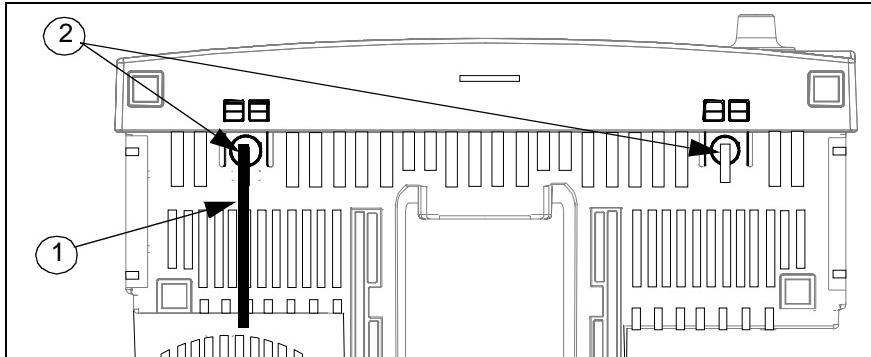
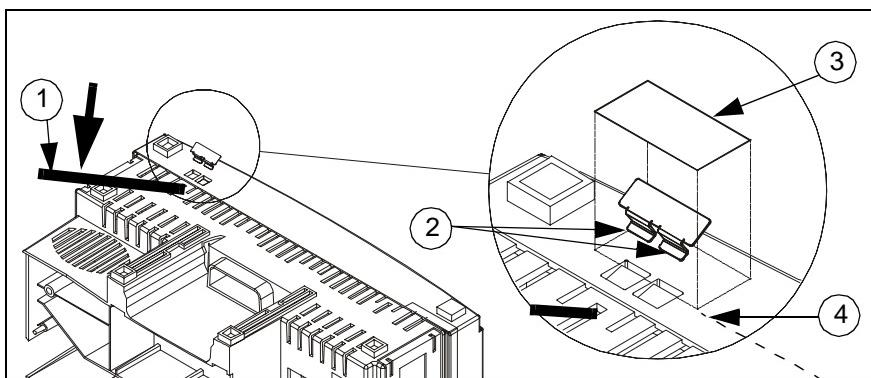

Figure 3-14 SC 7000 / SC 9000XL Patient Monitor Bottom View
Figure 3-15 Installing Security Clip and Tape
- 4) Turn monitor bottomside up. See Figure 3-14.
- 5) Insert small screwdriver or similar tool (① in Figure 3-14 and Figure 3-15) into slot in tab (② in Figure 3-14) to use as a lever.
- 6) Apply slight pressure in direction illustrated by heavy arrow in Figure 3-15 to assure tab of rear housing is securely engaged in front bezel.
- 7) Keeping pressure on lever (① in Figure 3-15), insert offset tongues of security clip (② in Figure 3-15) vertically into space between bezel and end of locking tabs in rectangular cutouts in bezel.
- 9) Align peel-and-stick label (③ in Figure 3-15) along edge of rectangular tab slots (along line ④ in Figure 3-15), and press down firmly on tape to secure clip to bezel.